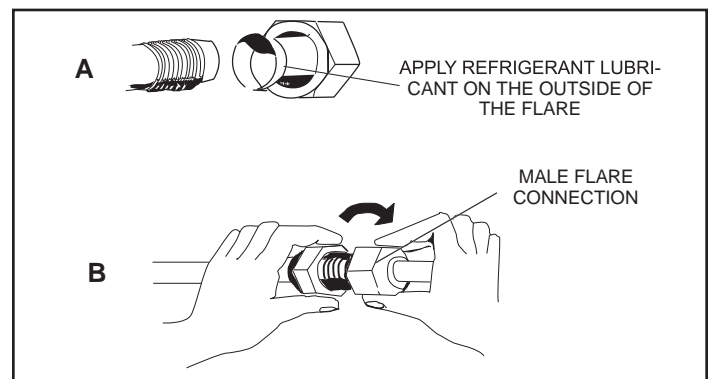

Figure 8. Making Connections at Indoor Unit (Male to Female Connection)
6. Apply recommended HFC-410A refrigerant lubricant to the outside of the flared refrigerant lines (figure 8-A).
7. Align the threaded connections with the flared refrigerant lines. Tighten the flare nuts lightly at first to obtain a smooth match (figure 8-B).